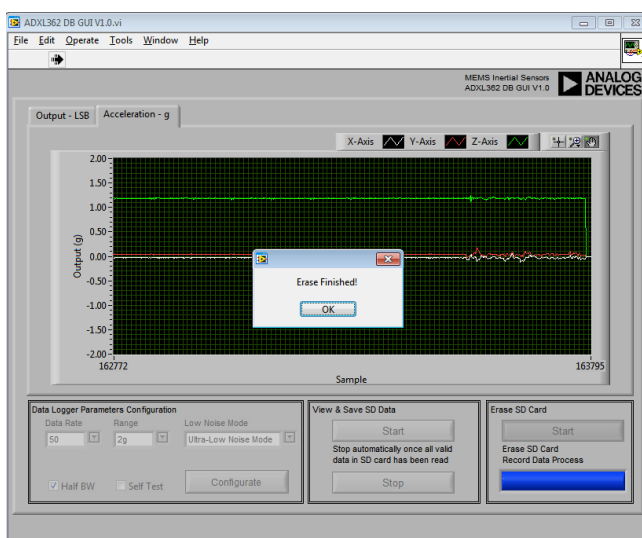

Figure 37. Erase Finished and Successfully
14. After view and save SD Card data on PC, it is recommended to erase SD Card for saving data the next time. To erase SD Card, click **Start** in **Erase SD Card** section. Progress bar in Erase SD Card section will show the erase process. It needs around 30ms to erase 256 x 512 bytes data, if there are 1GB valid data saved in SD card, it may need around four minutes to erase. Of course, it needs very long time to save 1GB data. Suppose the output data rate of ADXL362 is 100Hz, it needs to save data continuously around 21 days to generate 1GB 3-axes acceleration data. Figure 37 shows picture once SD card is erased successfully. If there is something wrong with the SD card, it will give the warning message to let you check SD card.